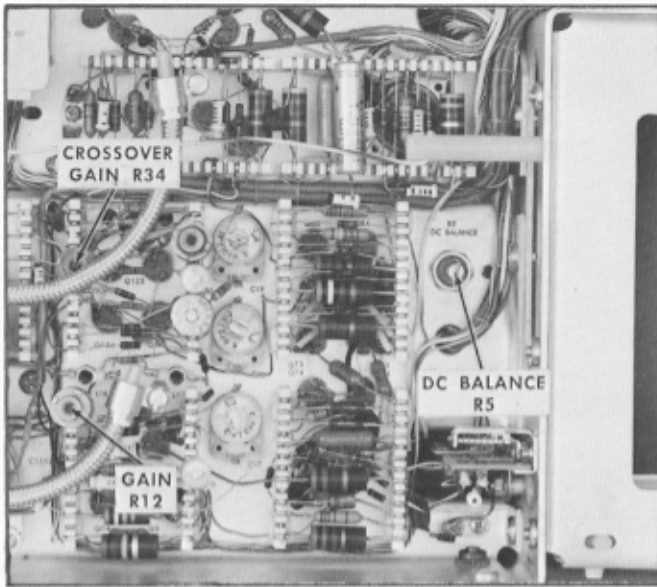

Fig. 6-20. Vertical amplifier DC balance and gain adjustments (left side view).
d. Adjust DC BALANCE control R5 (see Fig. 6-20) to center the trace on the Upper Beam graticule center line.
- j. Adjust GAIN R12 (see Fig. 6-20) for a display amplitude of exactly 4 cm.